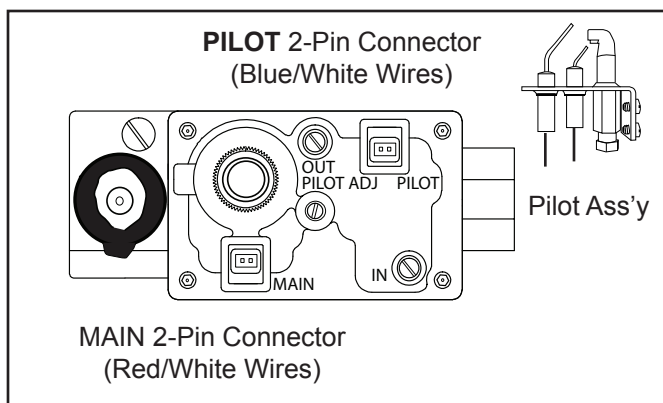

Fig. 6 Gas Valve Identification
1. Confirm that the "S" sensor wire and the "I" igniter wires are properly connected to the module "S" and "I" terminals on the module (See figure 6 for terminal locations).
2. Check the (2) pin plastic connectors that plug in the face of the gas control valve (See Fig. 6).